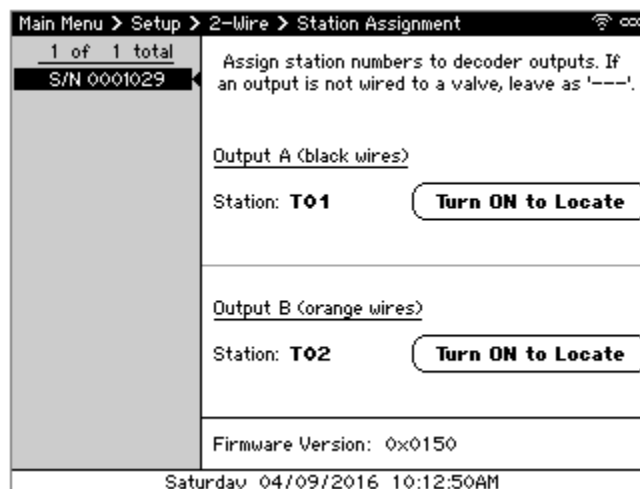

Figure 3 - Station Assignment screen
3. Select **Discover Decoders Connected to this Box** and press **SELECT**. The controller scans the 2-Wire cable, discovering all decoders attached to this controller. When the discovery completes, the Station Assignment screen displays (Figure 3). The pane on the left displays the 2-Station and Moisture Sensor decoders discovered while the right shows each's station assignments. **Note:** If you're returned to the 2-Wire dialog, it means you have other types of decoders attached as well. Navigate to and select **Assign Stations to Discovered Decoders**.